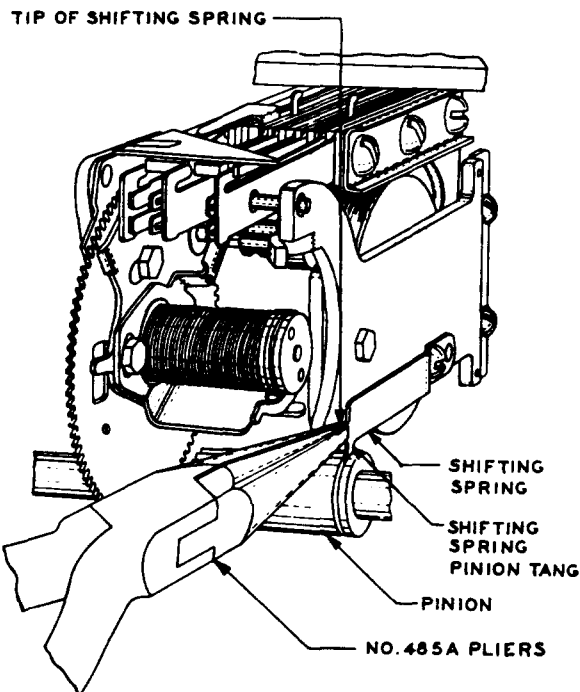

Fig. 23 - Method of Adjusting Pinion Position
(1) If it is necessary to change the position of a pinion with respect to its gear, adjust the tip of the shifting spring (Fig. 23) away from the armature with the No. 485A pliers to position the pinion nearer the gear or adjust the tip of the shifting spring toward the armature to position the pinion farther from the gear. After adjusting the tip of the shifting spring, check requirement 2.10 and, if necessary, readjust the shifting spring tension as outlined in 3.10(2). Check that requirements 2.07(b) and 2.32(b) are met.